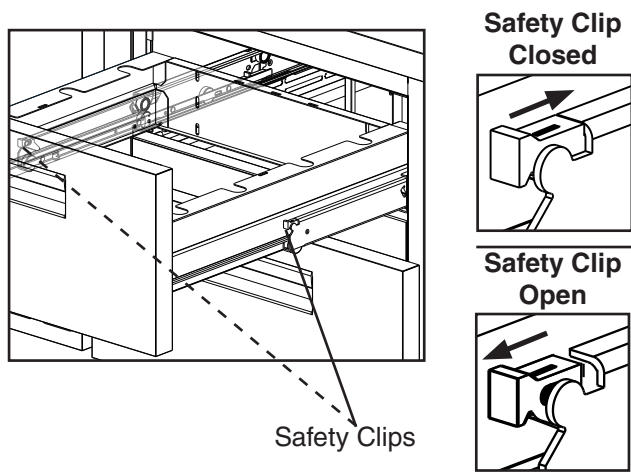

Fig. 47
- **To remove a drawer:** Remove all items from the drawer. Pull the drawer out to its fully extended position. Open the safety clips (one on each side) by sliding them forward. See Fig. 47. Lift up on the handle slightly, then pull to disengage the drawer. Be sure to support the rear and front of the drawer while removing it. **WARNING! Be sure to close the safety clips when reinstalling the drawer.**